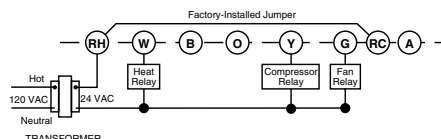
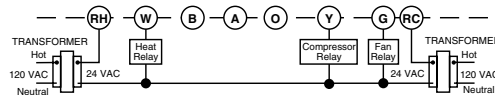

Figure 2. Typical wiring for single transformer heating/cooling system
Figure 3. Typical wiring for two-transformer heating/cooling system
- **If your system has more than two wires:** Use the cross reference chart to determine correct wire connections. If you have a four-wire heat/cool system leave the factory installed jumper between RC and RH attached (see Fig 2.). If your system has five wires remove the factory installed jumper between RC and RH (see Fig 3.).